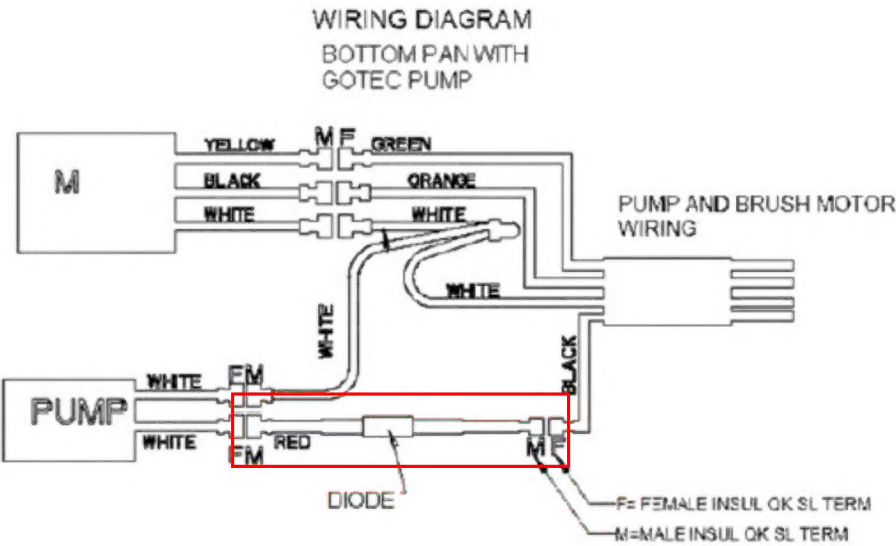

FIGURE 4 - GOTEC WIRING DIAGRAM (FOR REFERENCE ONLY)
- 6.4.4 Disconnect the two pump wires (everything back to the BLACK and WHITE supply wires). If removing a Gotec pump, be sure to remove the diode, as shown in Figure 4.